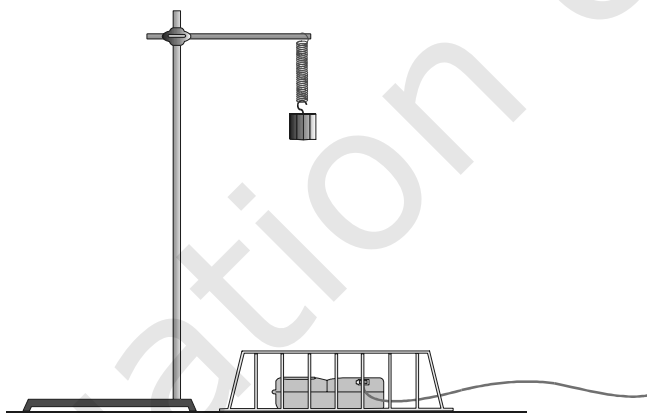

Figure 1
1. Attach the spring to a horizontal rod connected to the ring stand and hang the mass from the spring as shown in Figure 1. Securely fasten the 200 g mass to the spring and the spring to the rod, using twist ties so the mass cannot fall.